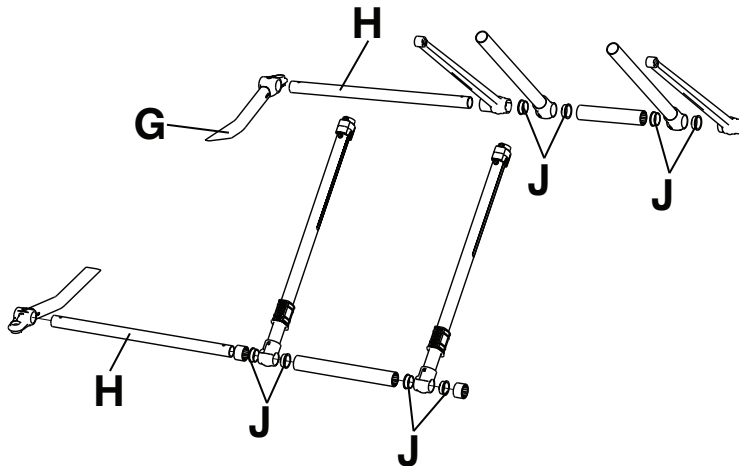

Figure 12 – Disassemble the X-frame
6. Remove the outer base tube weldment (G) on the side that is damaged. Leave the opposite side on to support the X-frame (Figure 12).
7. Slide the foot base tubes (H) through the X-frame legs to loosen the X-frame (Figure 12).
8. Remove the inner tube and save the bushings (J) to reuse on the new tube (Figure 12).